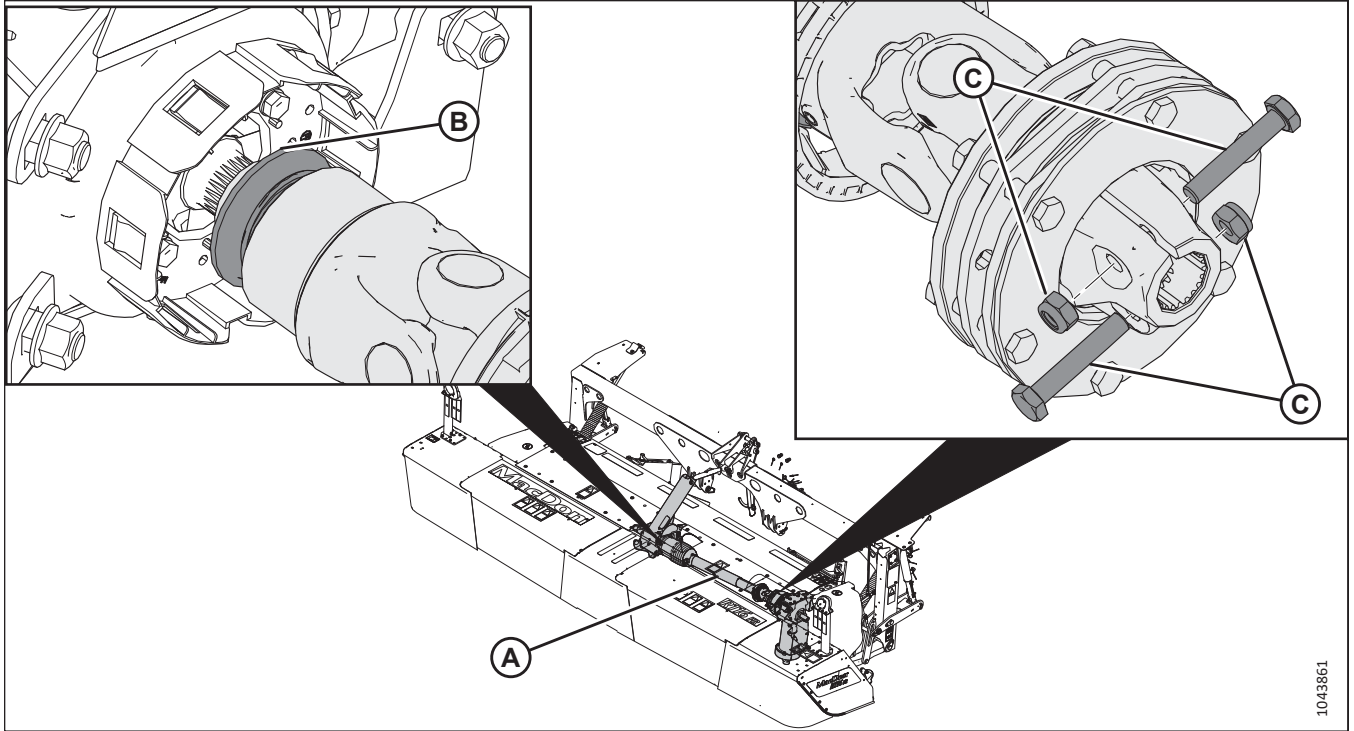

Figure 8.30: Cross Driveline
2. At the outboard end of cross driveline (A), install the driveline onto the splined shaft of the cutterbar/conditioner drive gearbox.
3. Secure the driveline to the splined shaft with existing nuts and bolts (C) configured as shown in Figure 8.30, page 63. Torque the nuts to 88 Nm (65 lbf-ft).
4. At the inboard end of cross driveline (A), install the driveline onto the splined shaft of the gearbox until collar (B) engages the shaft.
6. Install top shield (A) and secure it with 10 bolts (B).